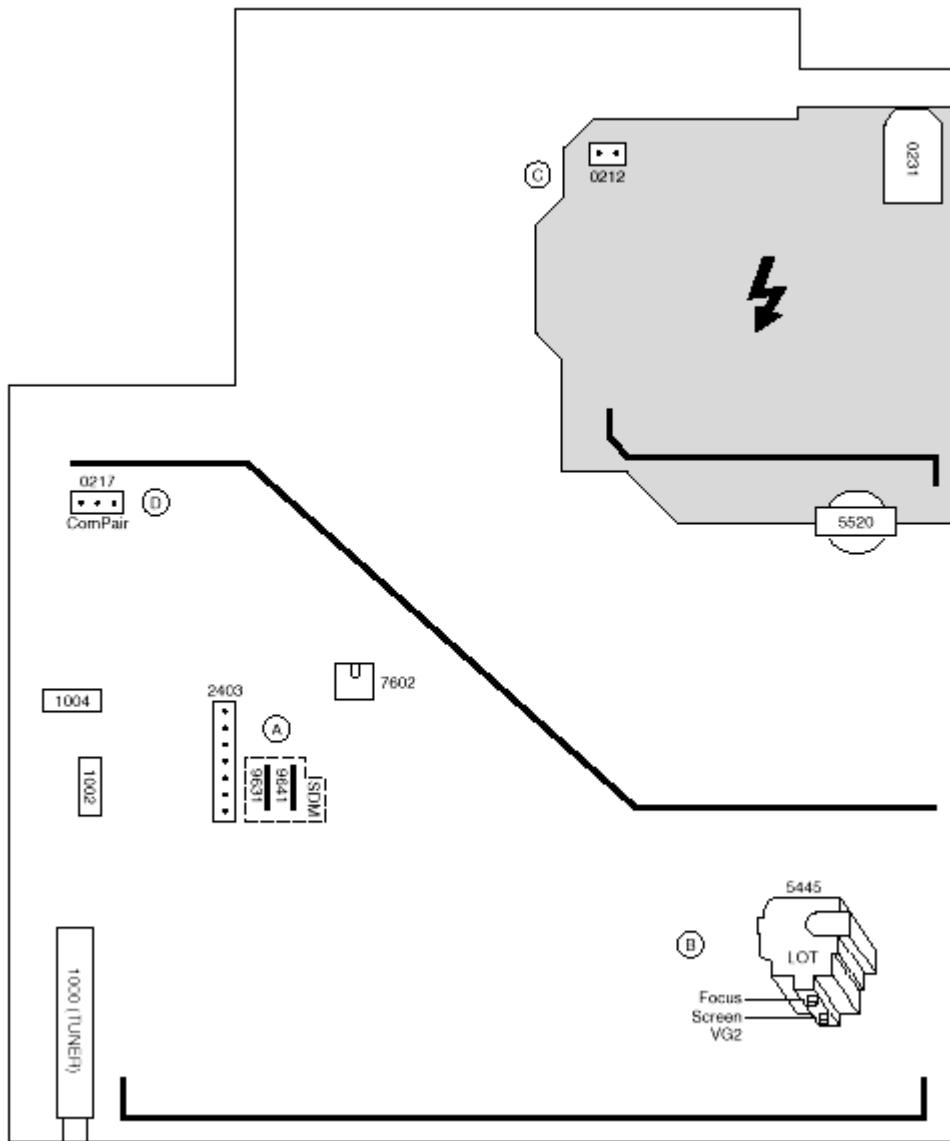

Fig. 1
10. Select the cathode with the highest  $V_{DC}$  value for the alignment. Adjust the  $V_{cutoff}$  of this gun with the SCREEN potentiometer (see Fig. 1) on the LOT to the correct value (see table below).
3. Adjust the FOCUS potentiometer (see Fig.1) until the vertical lines at 2/3 from east and west, at the height of the centerline, are of minimum width without visible haze.